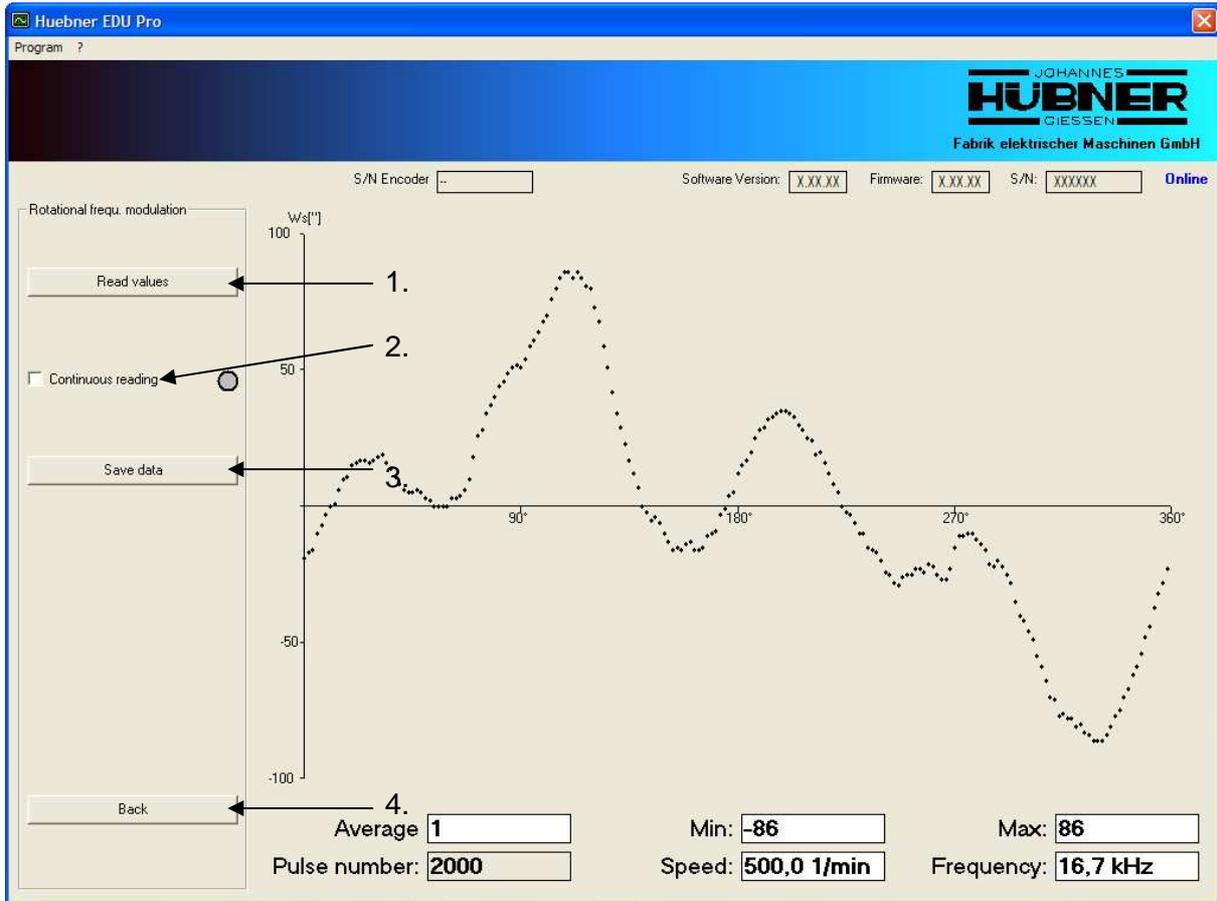

Fig. 14: Rotational frequency modulation
3. – Button „Rotational frequency modulation“ (Online measurement). Continue Fig. 14.